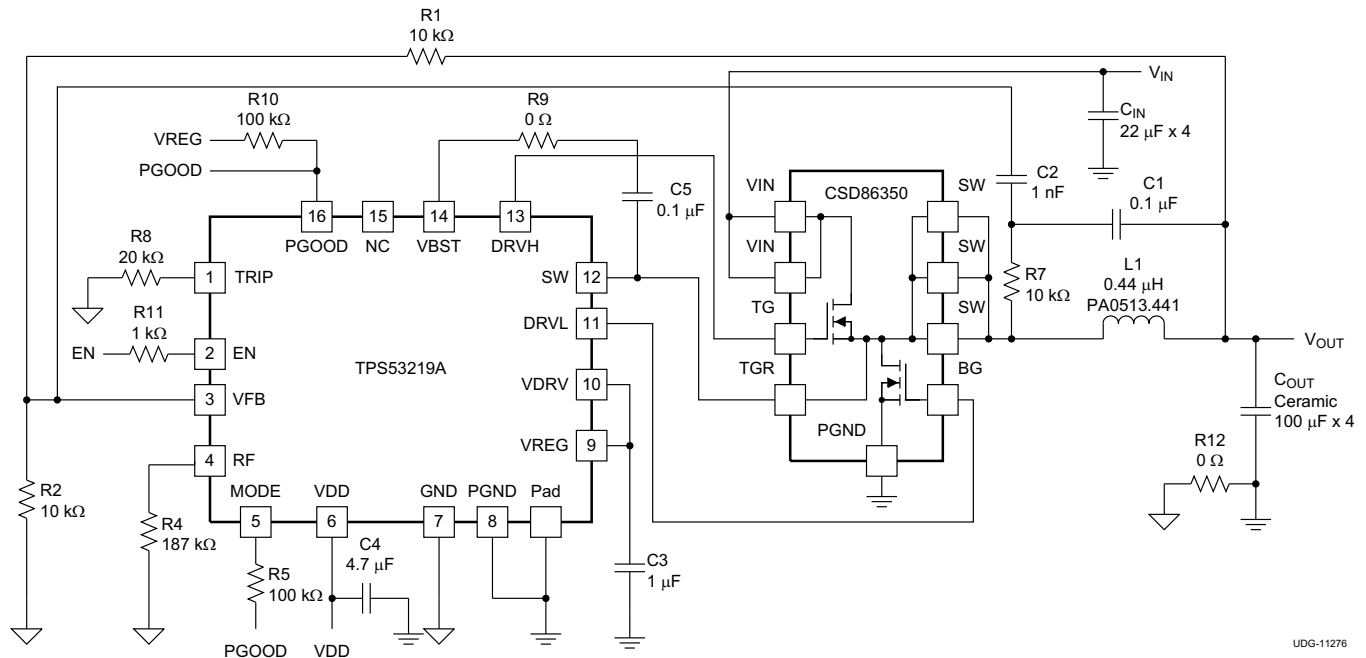

Figure 22. Typical Application Circuit Diagram With Ceramic Output Capacitors
When a ceramic output capacitor is used, the stability criteria in Equation 2 cannot be satisfied. The ripple injection approach as shown in Figure 22 is implemented to increase the ripple on the VFB pin and make the system stable. C2 can be fixed at 1 nF. The value of C1 can be selected between 10 nF to 200 nF.
- Connect the ripple injection V_{OUT} signal (V_{OUT} side of the C1 capacitor in Figure 22) from the terminal of ceramic output capacitor. The AC-coupling capacitor (C7 in Figure 22) can be placed near the device.